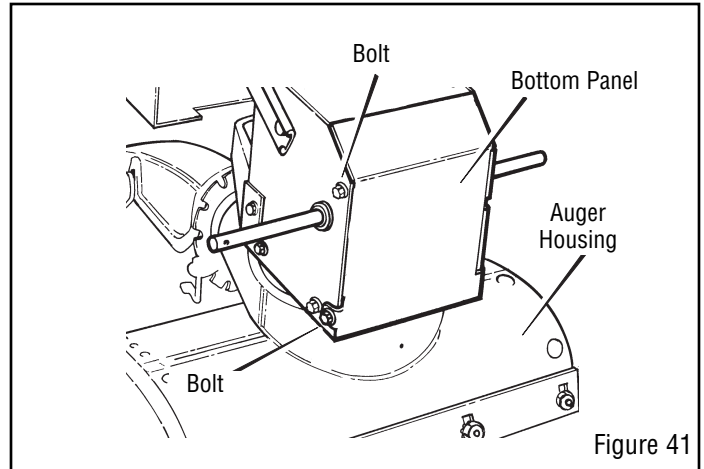

Figure 41
2. Loosen the **bolts** on each side of the **bottom panel** (see Figure 41).
12. Install the **bottom panel** (see Figure 41).